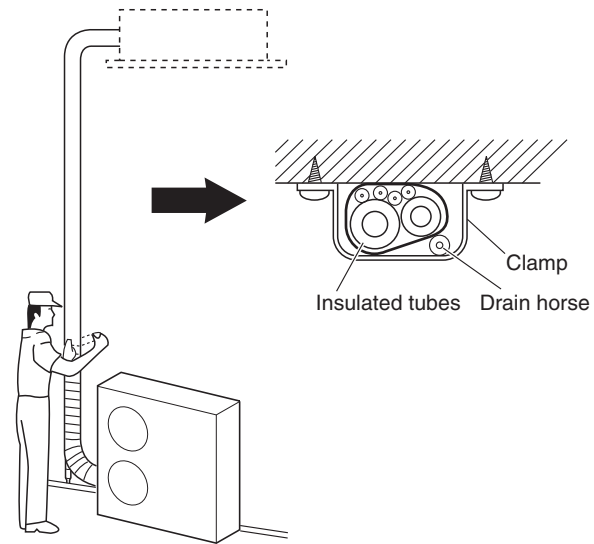

Fig. 5-10
- (1) At this time, the refrigerant tubes (and electrical wiring if local codes permit) should be taped together with armoring tape in 1 bundle. To prevent the condensation from overflowing the drain pan, keep the drain hose separate from the refrigerant tubing.
- (2) Wrap the armoring tape from the bottom of the outdoor unit to the top of the tubing where it enters the wall. As you wrap the tubing, overlap half of each previous tape turn.
- (3) Clamp the tubing bundle to the wall, using 1 clamp approx. each ft. (Fig. 5-10)